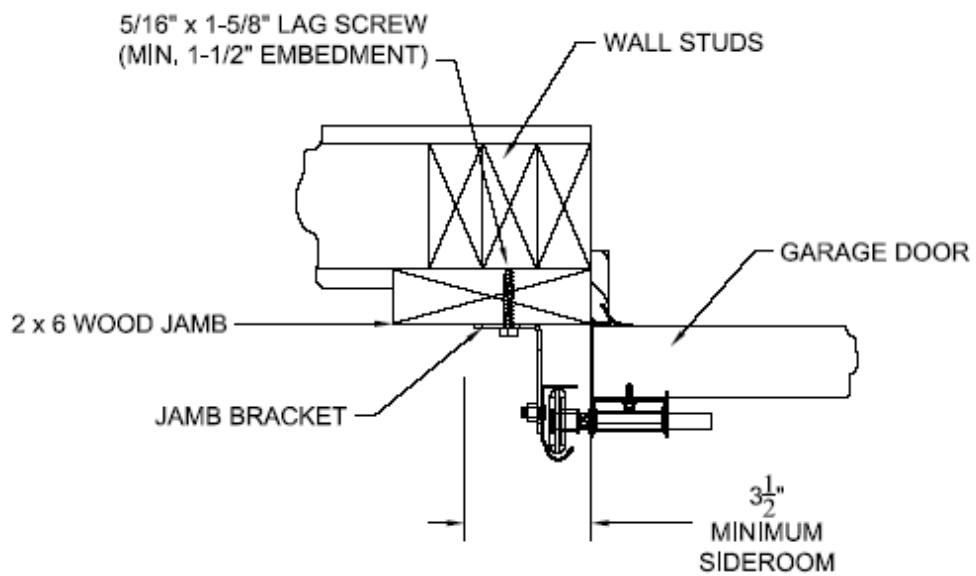

Figure 2: Attachment of garage door brackets directly 2 x 6 wood jamb (Option 2)
2. **Attachment of track to concrete, masonry block or wood-framed walls using a wood jamb:** For drawings beginning with the prefix "IRC" or "IBC," if 2x6 wood jambs are used, attach using the type, number and minimum embedment for fasteners shown on each drawing. The attachment of the vertical tracks must be as shown in Figure 2. Track bracket spacing must be as specified in the Installation section of this evaluation report. For the attachment of wood jambs to Spruce-Pine-Fir wall framing, attach using the type, number, and minimum embedment for fasteners shown on Table 2.